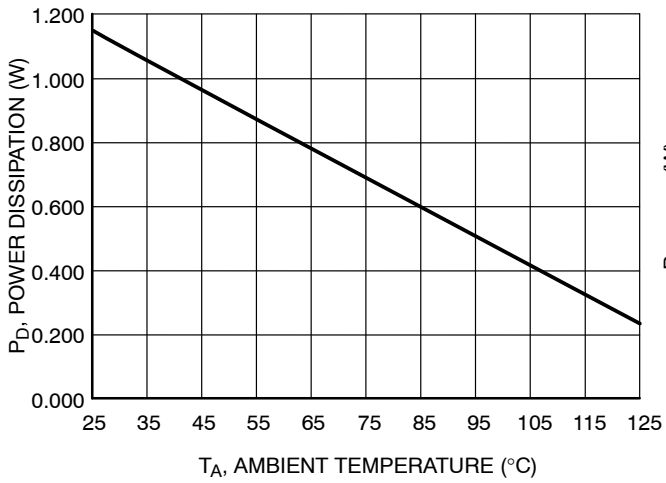

Figure 3. Total Power Dissipation (P_D) vs. Ambient Temperature (T_A)
- If $P_{D_total} > 1.13 \text{ W}$ (or derated value per Figure 3), then select the most appropriate recourse and repeat steps 1 through 8: